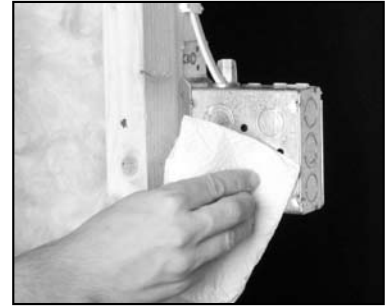

Figure 2.1
1. Remove any water, excess dust, dirt or oil from the box and adjacent surfaces (Fig 2.1)